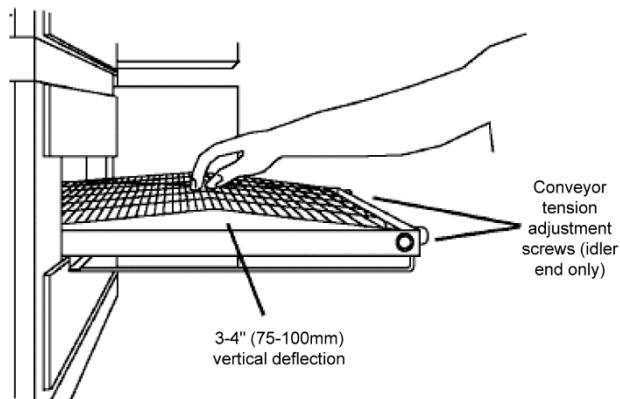

Figure 22. Conveyor Belt Tension
4. Check the tension of the conveyor belt as shown in Figure 22. The belt should lift about 1" (25mm) **DO NOT OVER TIGHTEN THE CONVEYOR BELT.**
NOTE: If necessary, the belt tension can be adjusted by turning the conveyor adjustment screws, located at the idler (non-control) end of the conveyor. See Figure 22.